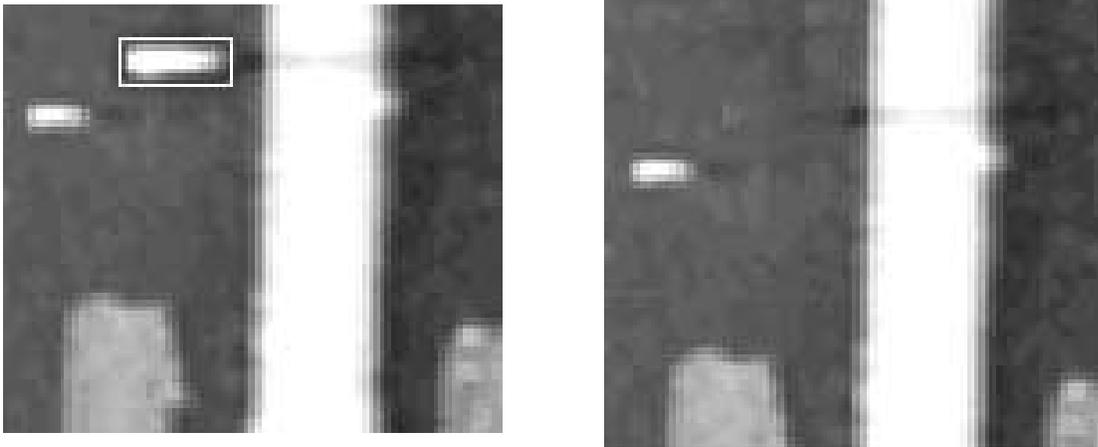

Figure 5-9. Pixel editing: before and after.
3. Release the mouse button and move the bounding box as needed to target the feature you are editing, as shown in Figure 5-9.